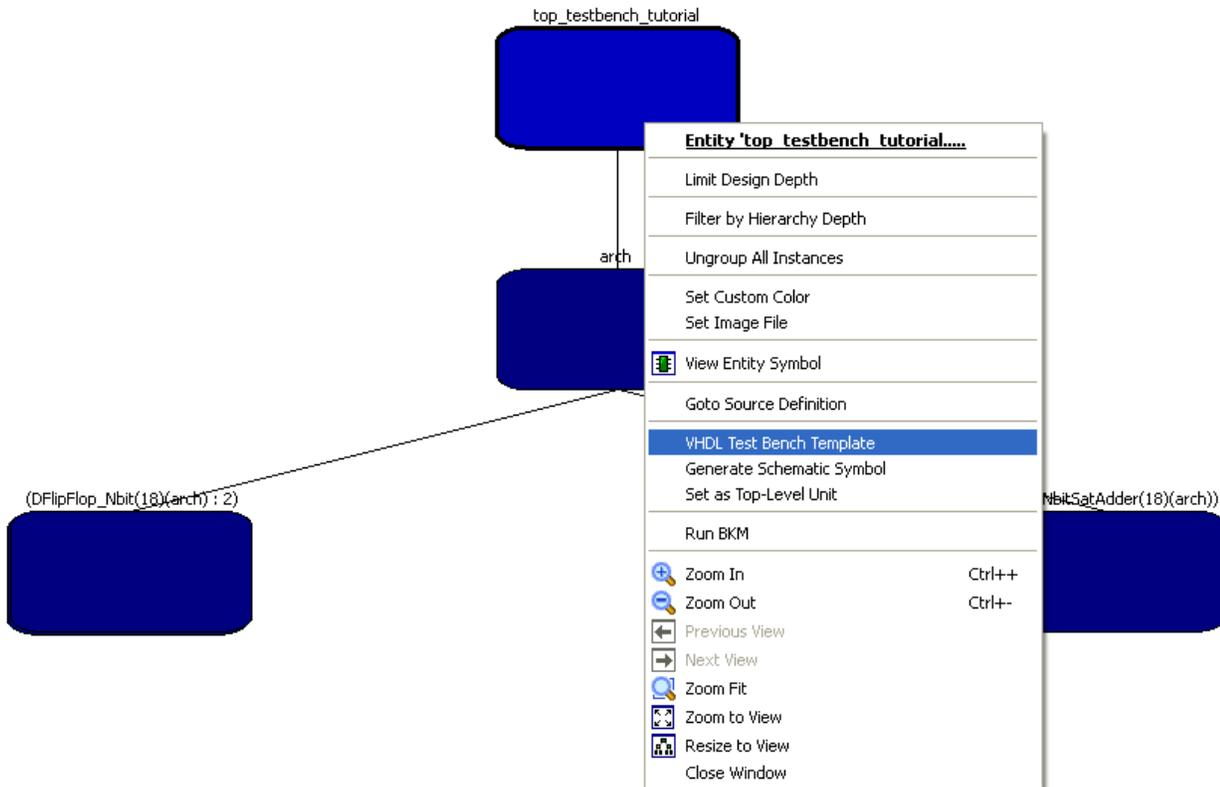

Figure 4 – Creating Test Bench Template
10. Right click in the top_testbench_tutorial within the Design View and select VHDL Test Bench Template. This can be seen in Figure 4 below.